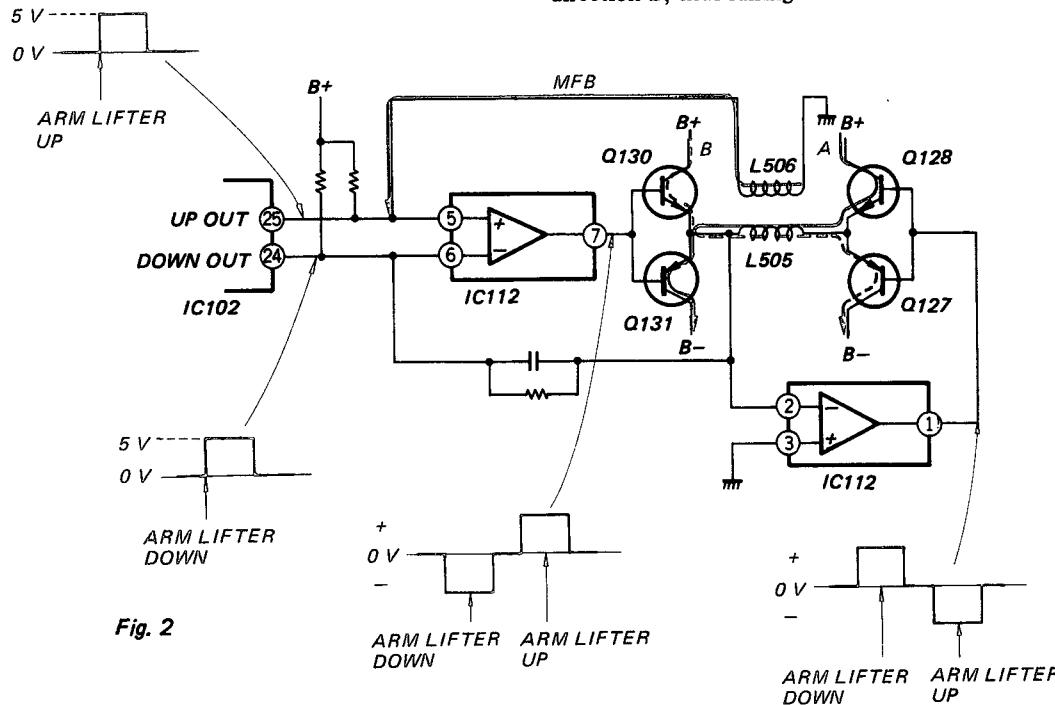

Fig. 2
1.4.2. Arm Lifter Raising/Lowering Circuit (see Fig. 2):